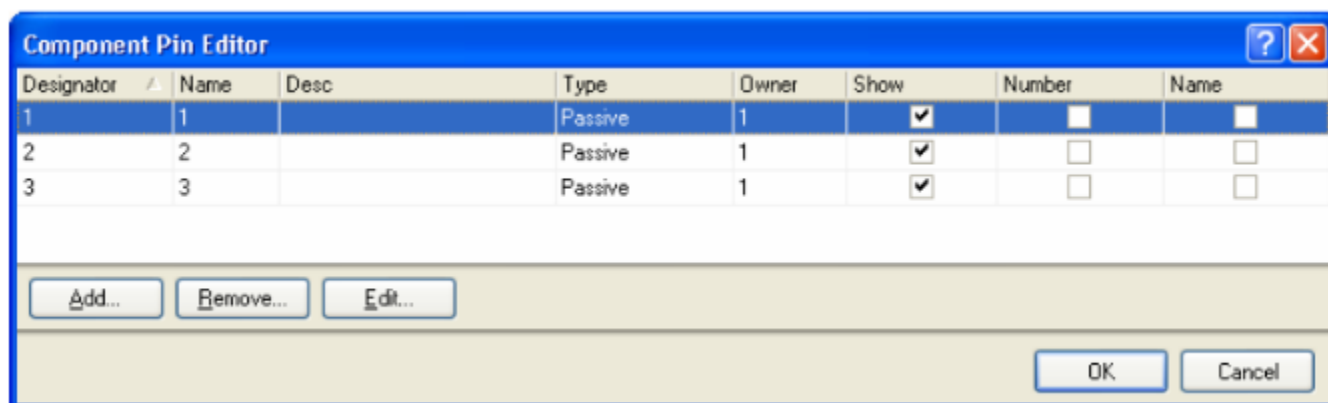

Figure 9. Review and edit all pins in the Component Pin Editor dialog.
- You can also edit pin properties directly in the *Component Pin Editor* dialog, without having to edit each pin through its corresponding *Pin Properties* dialog. Click on **Edit Pins** in the *Library Component Properties* dialog (double-click on a component name in the **SCH Library** panel to open this dialog) to display the *Component Pin Editor* dialog, as shown in Figure 9.